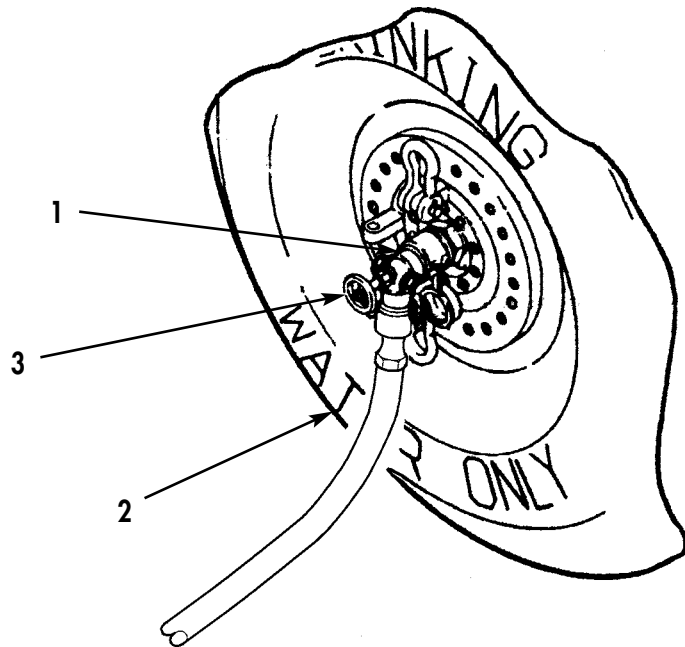
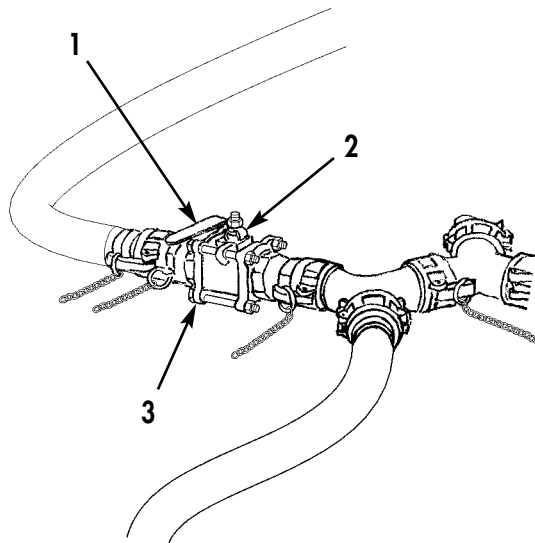

Figure 1. Open Coupling Valve.
Figure 2. Open Ball Valve.
2. Open coupler valve (Figure 1, Item 1) on drum (Figure 1, Item 2) selected for use by turning handwheel (Figure 1, Item 3) to the right until locked. Refer to WP 0004.
3. Open ball valve (Figure 2, Item 2) for drum (Figure 1, Item 2) in use by turning lever (Figure 2, Item 1) until in line with valve body (Figure 2, Item 3). Refer to WP 0004.